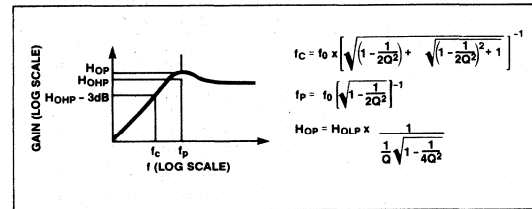

Figure 3. Highpass Filter Terminology
- HOHP:** The gain in V/V of the highpass output at f = fCLK/2. See Figure 3.